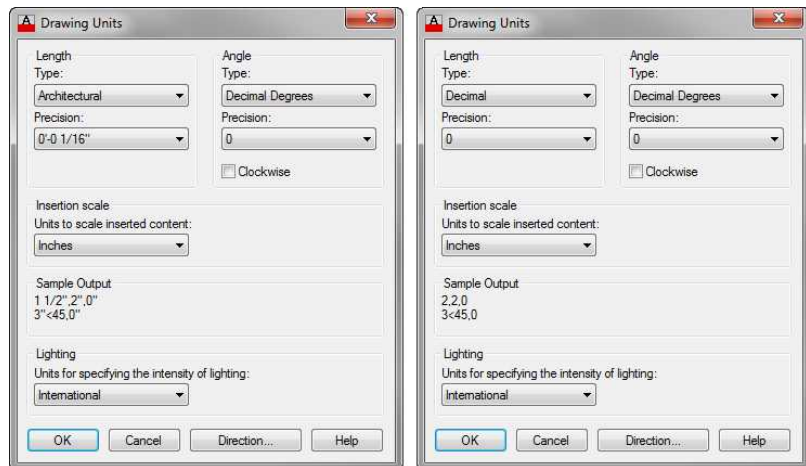

FIGURE 3.3 : The Precision drop-down list for Architectural units (left) and Decimal units (right)
6. Click the down arrow in the Precision drop-down list in the Length group to display the choices of precision for Architectural units (see Figure 3.3).